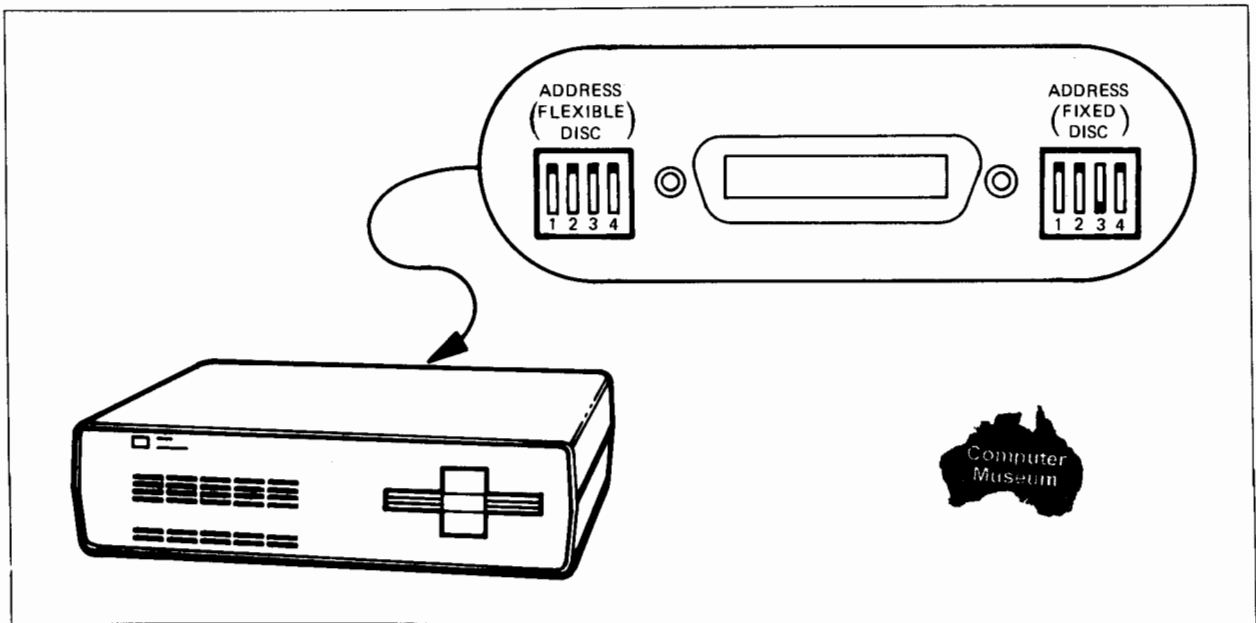

Figure 1-3. Setting Drive Address Switches.
3. Locate the two sets of switches labeled "ADDRESS (FLEXIBLE DISC)" and "ADDRESS (FIXED DISC)" on the back of your disc drive. The disc drive contains two separate devices (the flexible disc drive and the fixed disc drive). Use a sharp object to press all of the switches for the flexible disc to the up position (HP-IB address "0"); then for the fixed disc drive, press switches 1, 2 and 4 to the up position and switch 3 to the down position (HP-IB address "2"). Refer to figure 1-3.